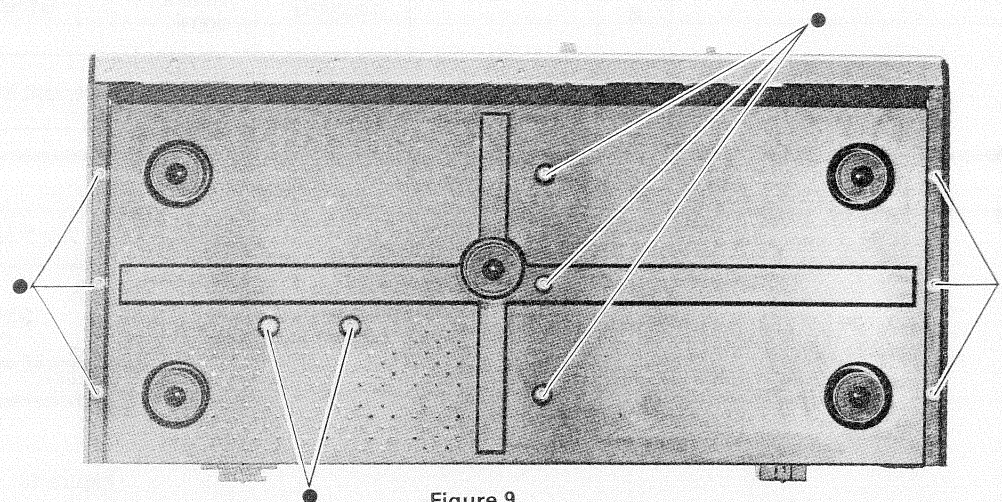

Figure 9
Remove the eleven screws marked (●) as shown in figure 9.
- Wind the dial cord in the numerical sequence as shown in figure 9.